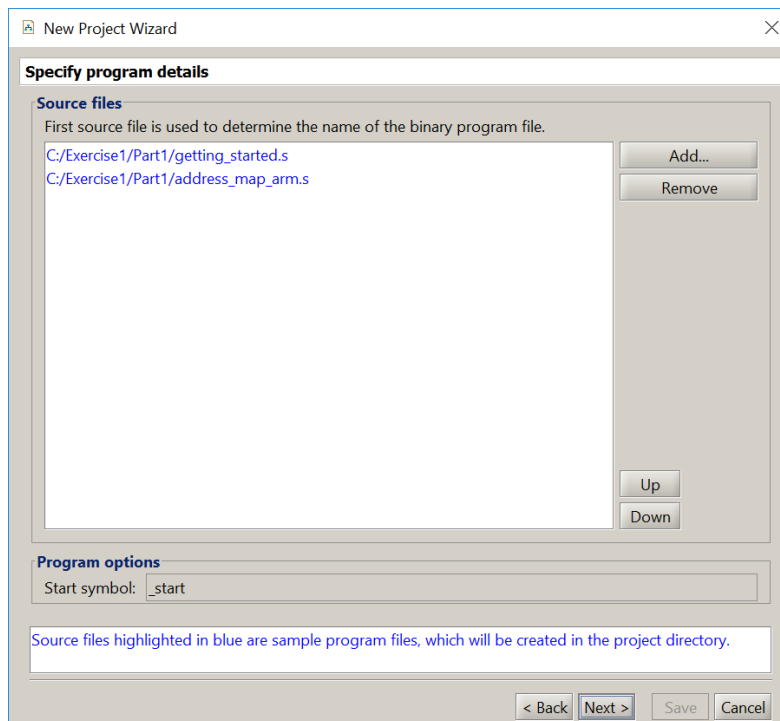
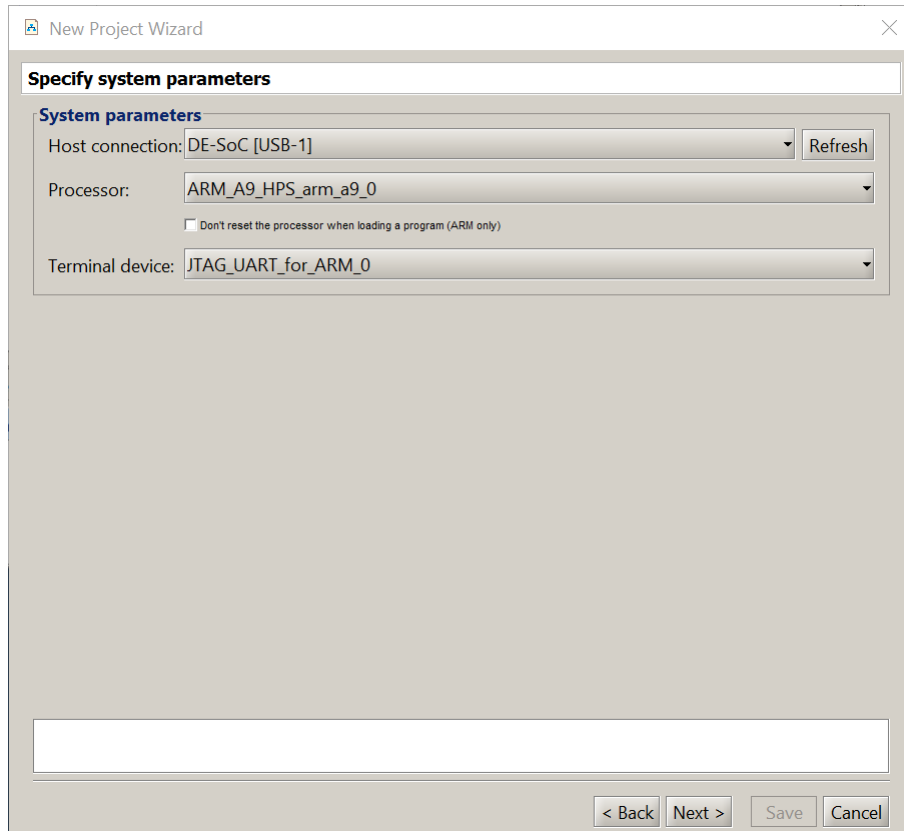
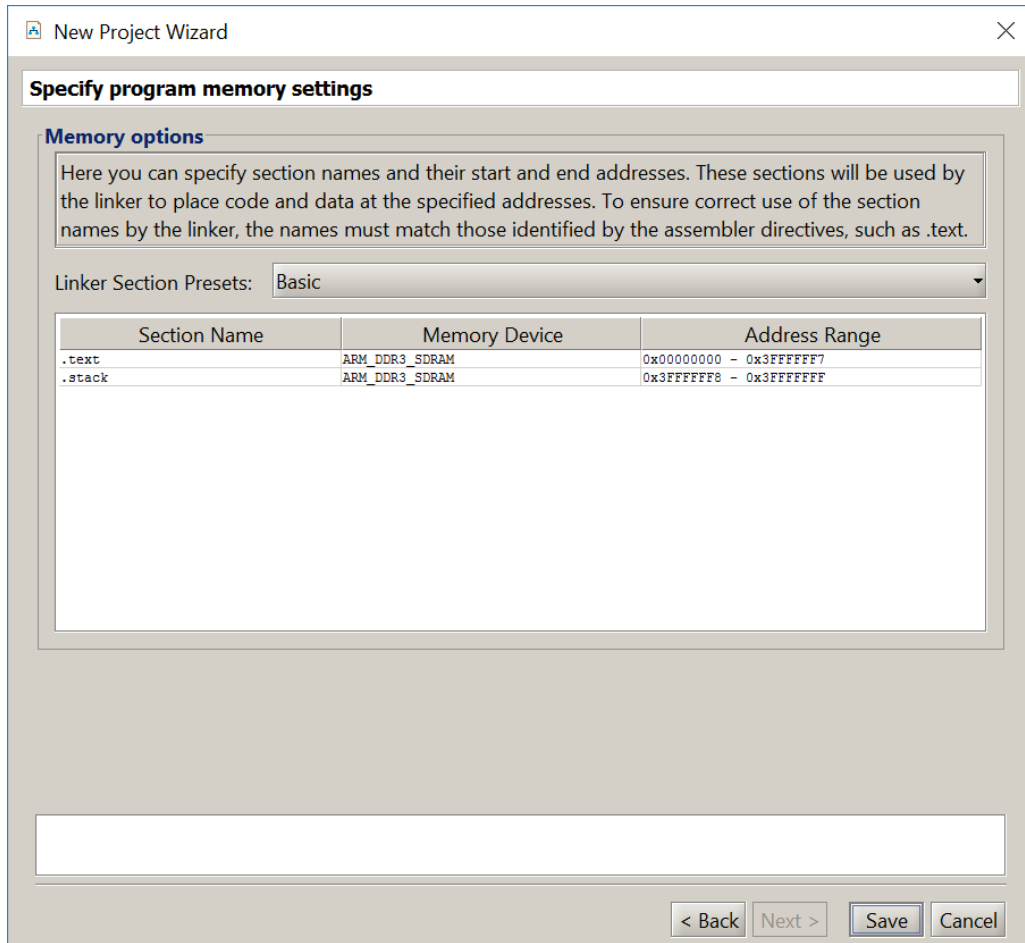

Figure 5: Source files used by the application program.
Figure 6: Specify the system parameters.
Figure 7: Specify the program memory settings.
5. The window in Figure 5 is used to specify the source file(s) that contain the application program(s). Since we have selected the *Getting Started* program, the window indicates the source code file for this program. This window also allows the user to specify the starting point in the selected application program. The default symbol is `_start`, which is used in the selected sample program. Click **Next**.
6. The window in Figure 6 indicates some system parameters. Note that the figure indicates that the *DE-SoC [USB-1]* cable is selected to provide the connection between the DE-series board and the host computer. This is the name assigned to the Intel USB-Blaster connection between the computer and the board. Click **Next**.
7. The window in Figure 7 displays the names of Assembly sections that will be used for the program, and allows the user to select a target memory location for each section. In this case only the *.text* section, which corresponds to the program code (and data), will be used. As shown in the figure, the *.text* section is targeted to the DDR3 memory in the DE-series board, starting at address 0. Click **Save** to complete the specification of the new project.
2. Upon reaching the window in Figure 5, you have to specify the source code file for your program. Click **Add** and in the pop-up box that appears indicate the desired file name, *part2.s*. Click **Next** to get to the window in Figure 6. Again click **Next** to get to the window in Figure 7. Notice that the DDR3_SDRAM